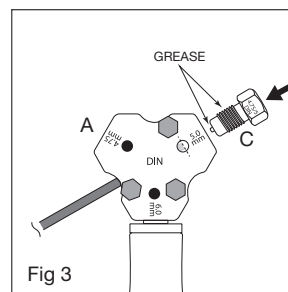

Fig 3
7. Refer to **Figure 3**: Screw the DIN punch into the body of the flaring tool then using a suitable 17mm socket or wrench, continue to wind in the punch until the hex contacts the body of the flaring tool.